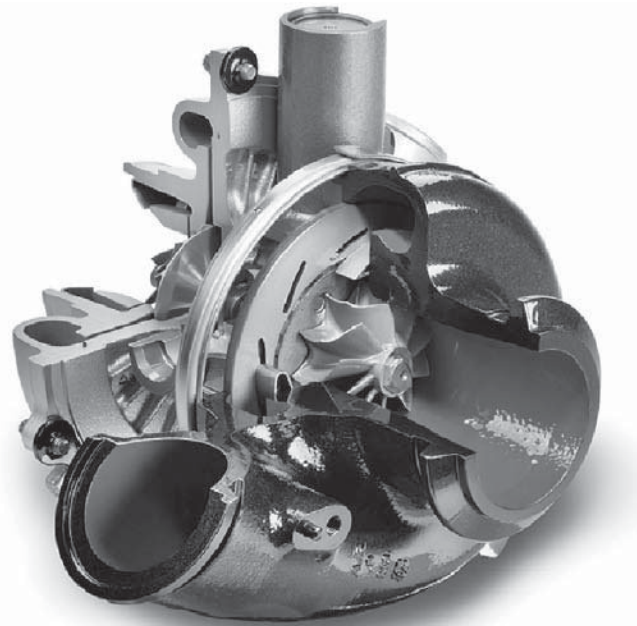
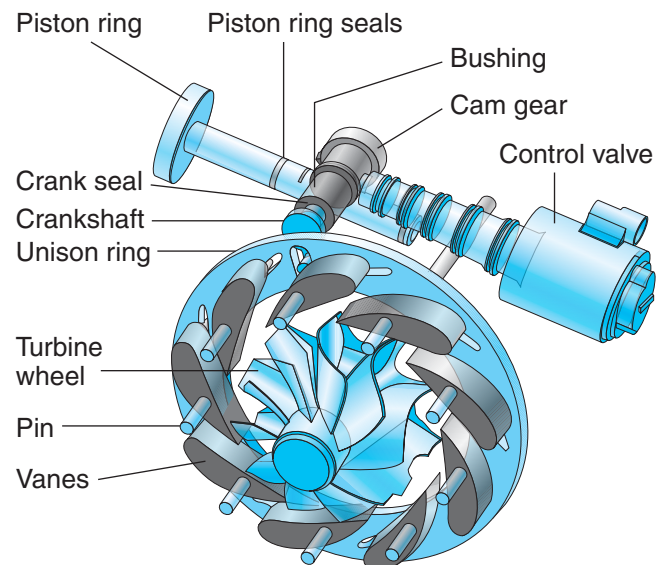

Figure 9-5 Caterpillar C7 variable nozzle turbocharger cutaway. (Courtesy of Caterpillar)
Figure 9-6 Component operation of a VN turbocharger. (Courtesy of Caterpillar)
Volute Controlled VG. Volute controlled VG turbochargers have become more common on today's diesel engines. Race car engines have used variable nozzles to control the volute flow area for many years. Diesel engines successfully adapted this technology about 10 years ago. The first volute controlled diesel engine turbochargers appeared in the early 1990s with limited success, but today most diesel engine OEMs are using variable volute in preference to wastegated turbochargers. **Figure 9-5** shows a volute controlled VG turbocharger on the system used on a post-2007 Caterpillar ACERT C7 engine.
Variable Nozzle Turbocharger. **Figure 9-5** shows a sectioned view of what Caterpillar call a **variable nozzle (VN)** turbo. This type of variable volute technology has become popular with OEM post-2007 engines. Identify the turbine, pin wheel, vanes, and unison ring by cross-referencing this figure with **Figure 9-6**.